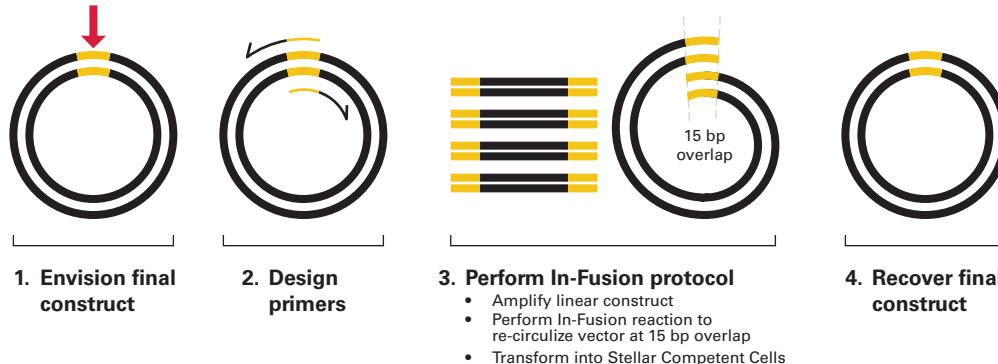

Figure 1. Procedure for performing mutagenesis with In-Fusion systems. The area where mutagenesis occurs is shown in yellow.
In-Fusion Cloning makes it easy to perform mutagenesis: it combines the power of the In-Fusion HD enzyme with inverse PCR, a method for rapid *in vitro* amplification of the DNA sequences that flank a region of known sequence (1). During inverse PCR, primers are oriented in opposite directions on your circular cloning vector (Figure 1). To perform mutagenesis with In-Fusion systems, design your PCR primers so that they have a 15 bp overlap with each other at their 5' ends and incorporate the mutation of interest. Use the CloneAmp[™] HiFi PCR Premix (a high-fidelity PCR polymerase included with all In-Fusion HD Cloning Plus Systems) to perform your PCR reaction, add the In-Fusion HD enzyme premix to your linearized PCR product, and transform into the provided Stellar[™] Competent Cells. You have a $\geq 95\%$ chance of recovering your final desired construct—the first time and every time.
- 1. Think about your final construct:** Choose the vector you want to modify and envision your final, mutated construct (Figure 1; mutation shown in yellow).